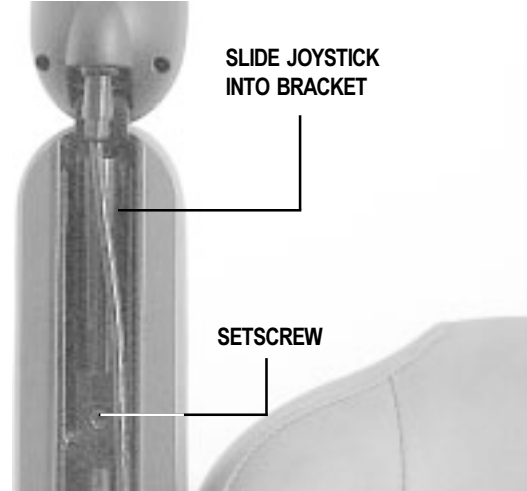

Figure 12. Joystick
1. Use a 3/16-in. hex key to loosen the setscrew. See figure 12.